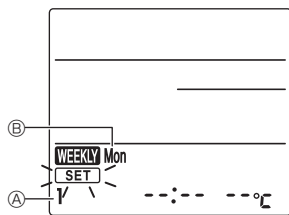

Fig. 1
- ① Press the [EDIT] button when the unit is operating or stopped. [SET] blinks. (Fig. 1)
- ① Press the [1~4] button to select the setting pattern number.